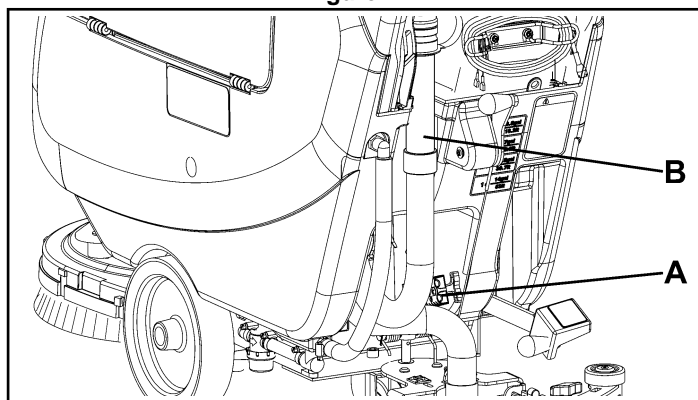
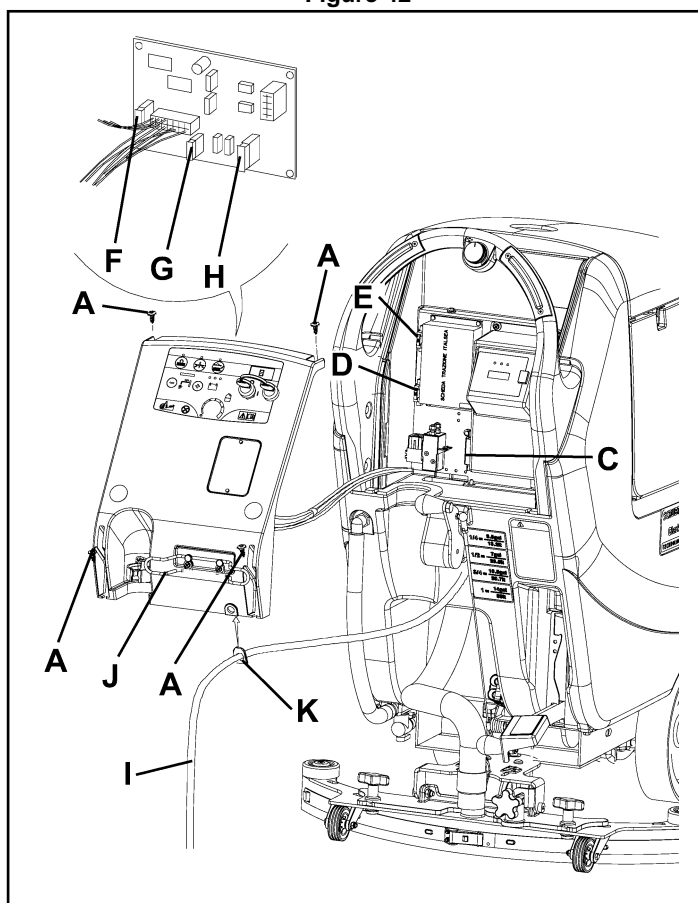

Figure 42
Figure 43
1. Disconnect the battery connector (A, Fig. 42).
2. Move aside the recovery water drain hose (B).
3. Remove the battery charger cable (I, Fig. 43) from the cable holder (J).
4. Remove the screws (A) and carefully move aside the panel (B) by disengaging the grommet (K) from its housing on the panel (B).